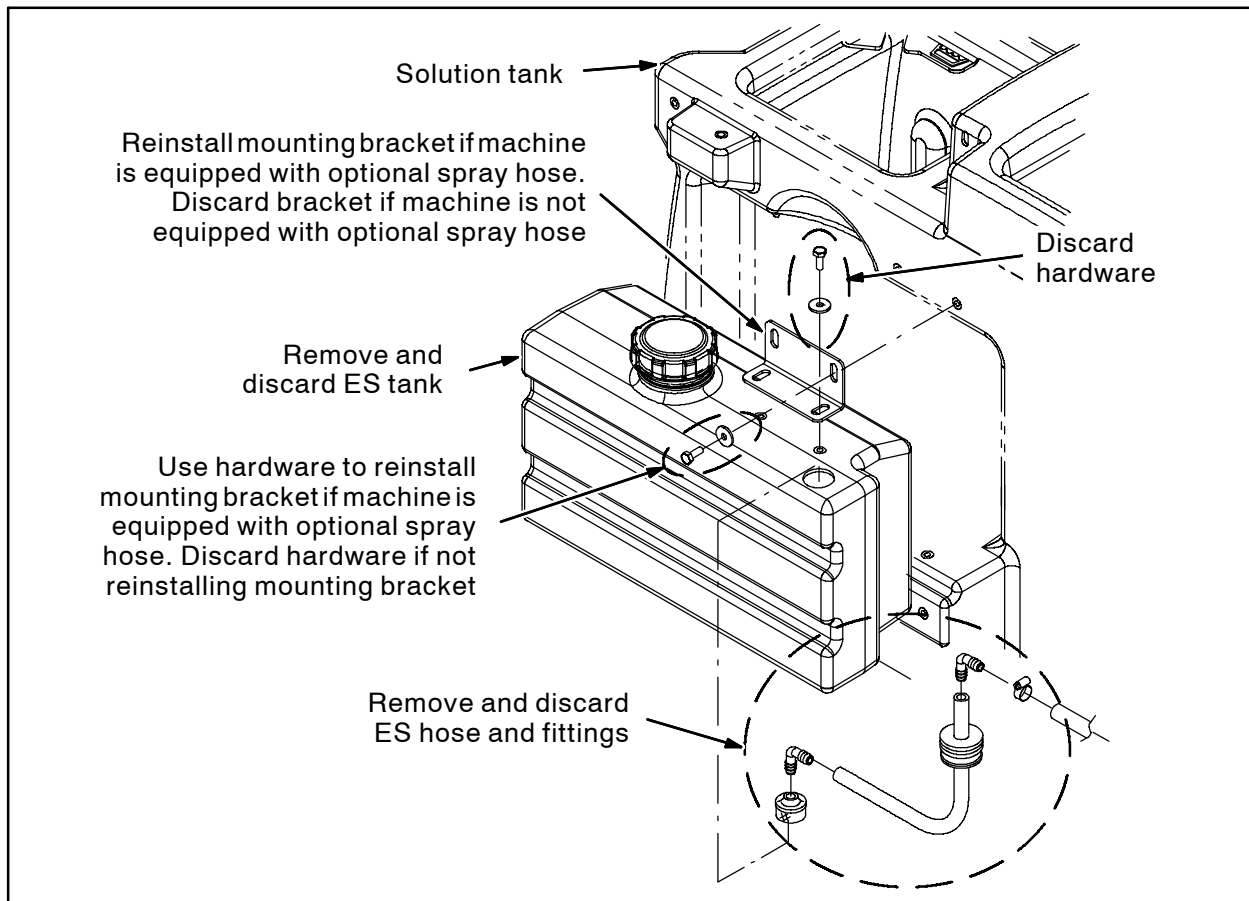

FIG. 6
11. Remove the ES hose and fittings from the operators compartment and the ES tank from behind the operator seat. Reinstall the mounting bracket if the machine is equipped with the optional spray hose. Discard the ES tank, hose, and fittings. Refer to Fig. 6.